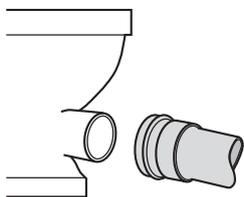

Fig.34b Offering up connector
Step 3 – Offer up 102 90° WC Turned Connector or 125 WC Straight Connector to WC spigot (Fig.34b)